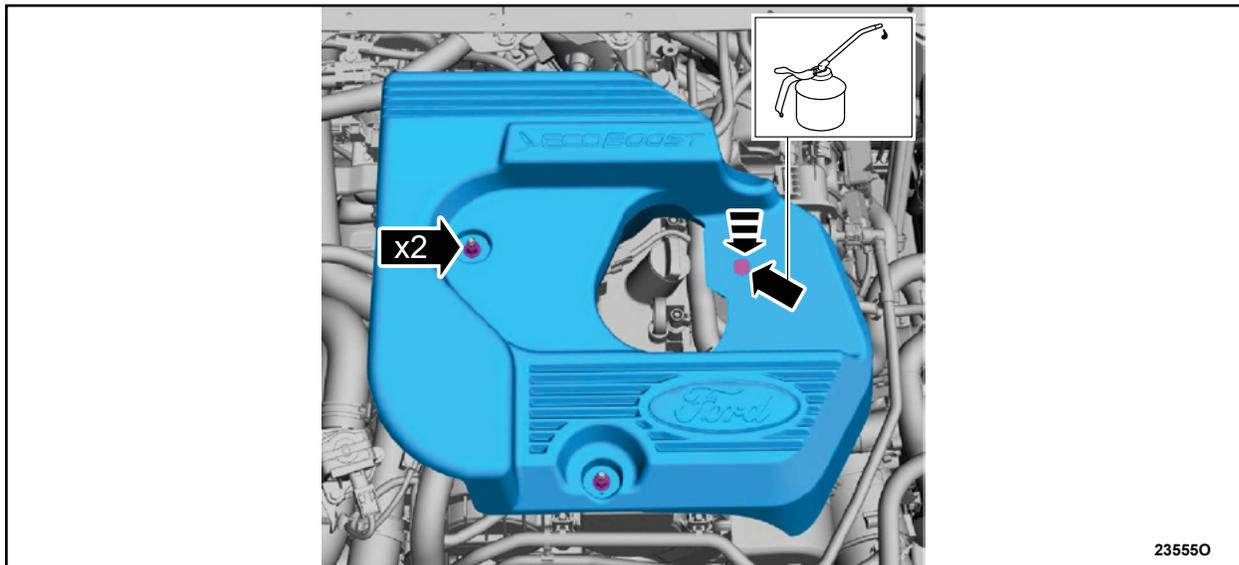

FIGURE 20
24. If equipped install the engine appearance cover. See Figure 20.